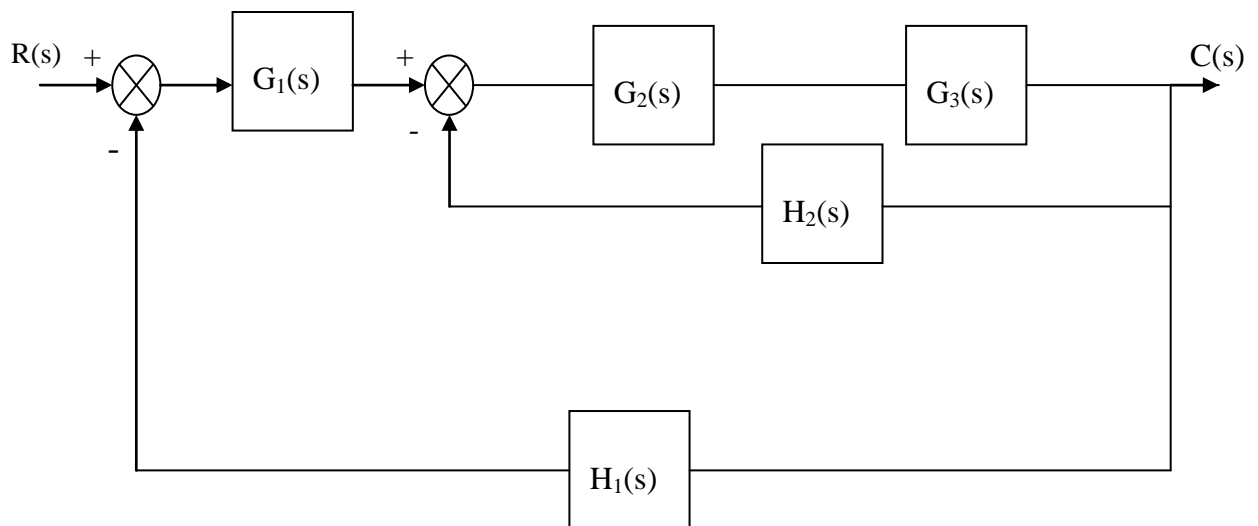

Figure 5(a)/Rajah 5(a)
5. (a) Reduce the system described by **Figure 5(a)** to a single block and determine the transfer function of the block.